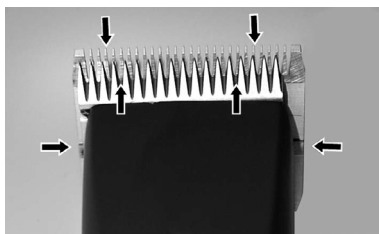

Fig. 22
To receive good clipping results and to increase the durability of the clipper and the clipperhead, it is necessary to apply a thin oil coat between top and bottom blade (fig. 22).
- ▶ Lubricate the blades sufficiently during the clipping (at least every 15 minutes), so that they do not drain (fig. 22).
The blades must be oiled before, during and after every use. When the blades of the clipper are leaving stripes or are running with reduced speed, this is a signal that oil is required. Place a few drops of oil ahead and laterally on the clipper blades (see arrows in fig. 22). Wipe off the excessive oil with a smooth, dry cloth. Lubrication sprays do not have sufficient oil for a good lubrication, but serve for cooling the blades. Immediately change damaged or crenated blades to avoid injuries.